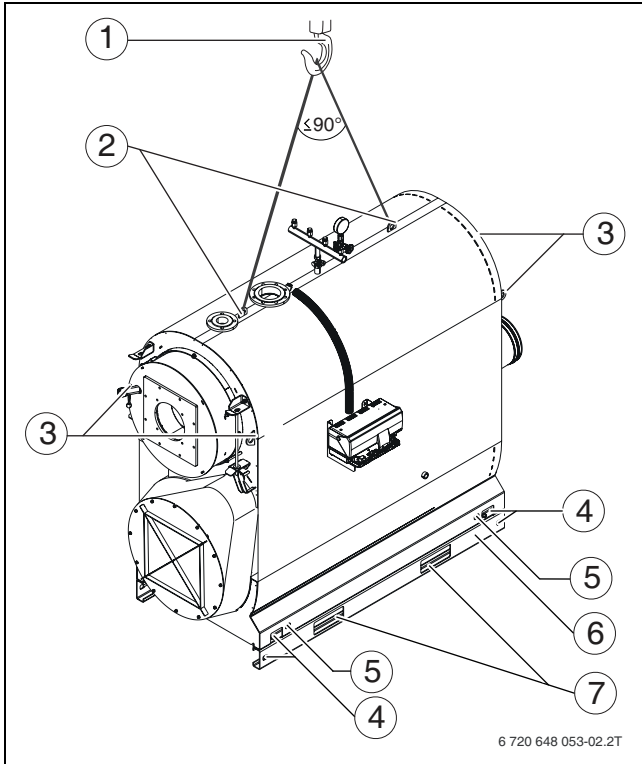

Fig. 6 Lifting the boiler with a crane
- ▶ Insert the hooks of the lifting tackle into the eyes in both gusset plates (→ Fig. 6, [2] of the boiler body.
- ▶ Attach the crane hook to the lifting tackle (→ Fig. 6, [1]).